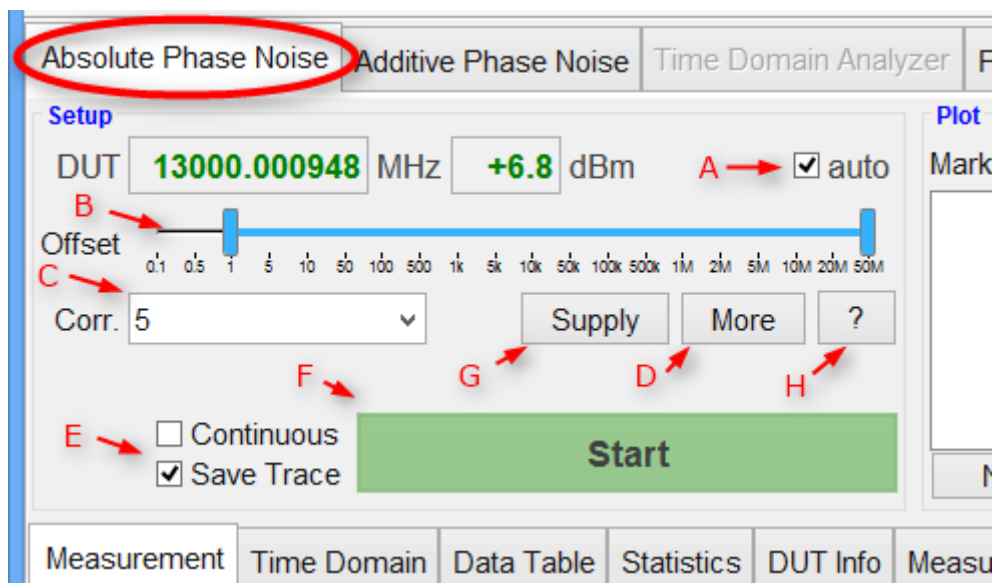

Figure 6 Setup section of absolute phase noise tab
- A) Enable internal frequency counter and power meter** (see Figure 6): If the auto checkbox is enabled, the counter and power meter are running and constantly updating the detected DUT frequency and power. Disabling allows manual entry of the DUT frequency. Internal counters and power detector is shut down. Per default, the auto-detection is on and once a valid signal is detected, the Measure button turns green and is enabled.